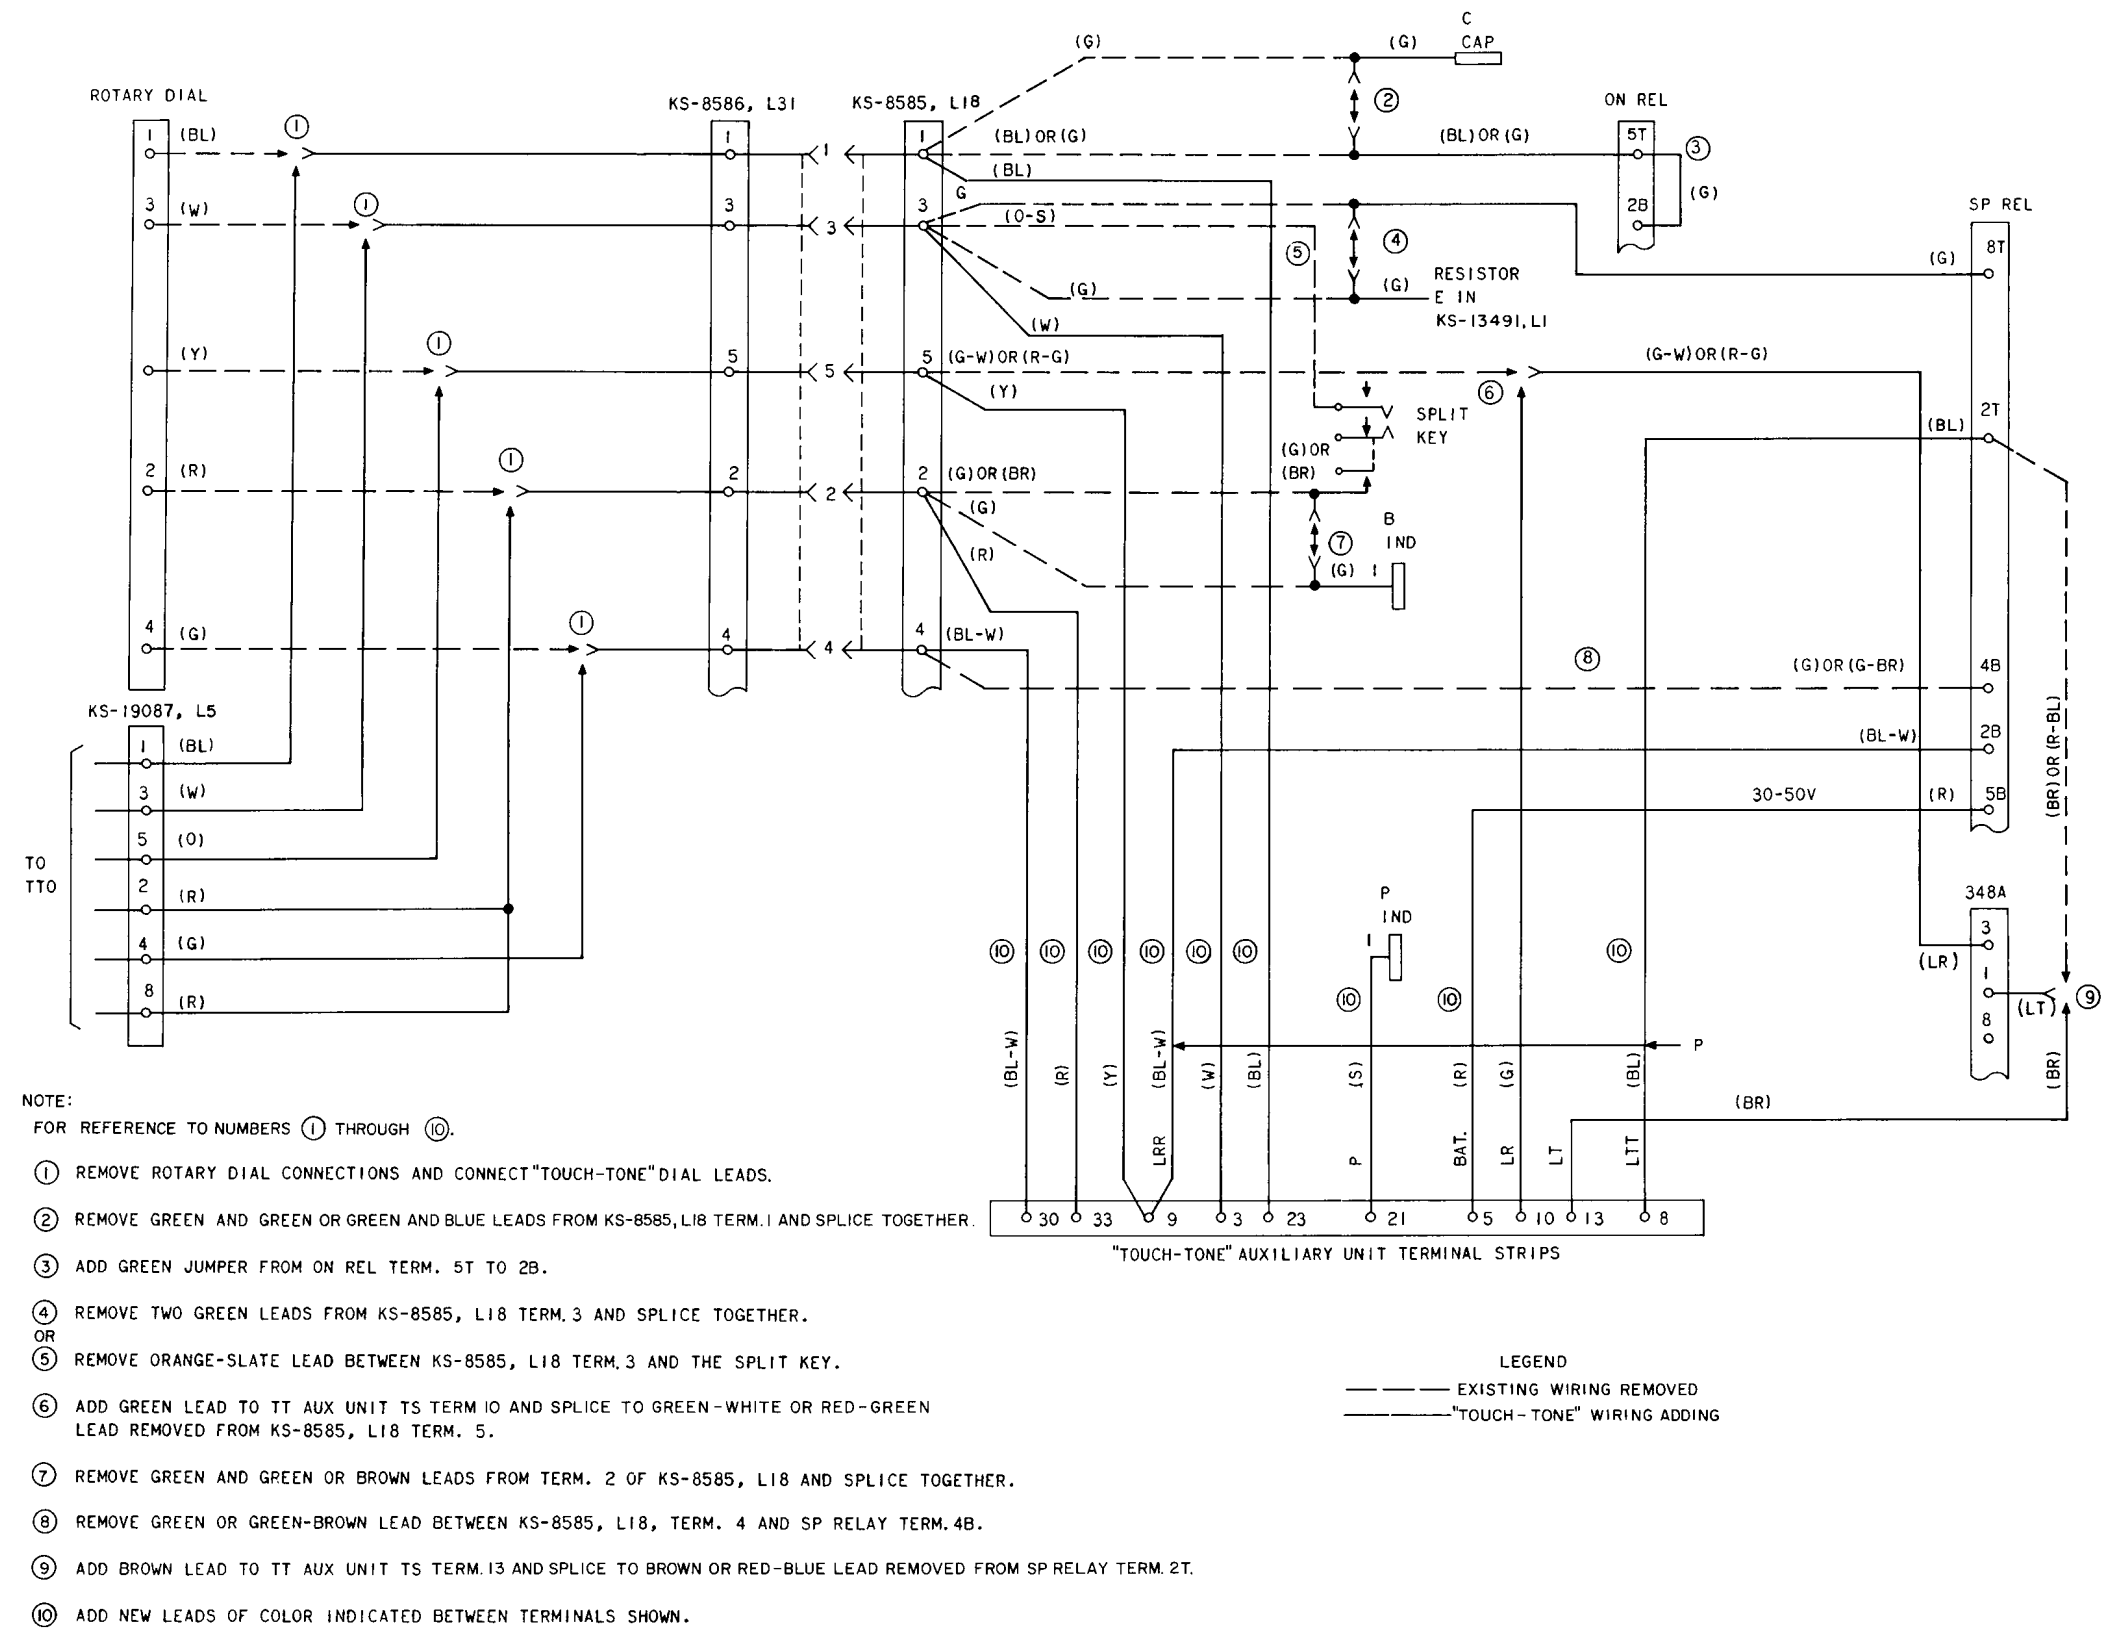

Fig. 8—TOUCH-TONE Equipment Connections for 555 PBX using only TOUCH-TONE Dial
3.18 To make connections for the TOUCH-TONE dial and auxiliary unit refer to Fig. 8.